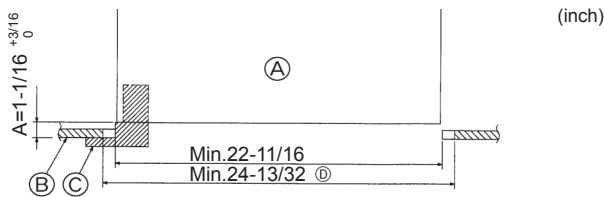

Fig. 7-2
7.2. Preparing to attach the grille (Fig. 7-2)